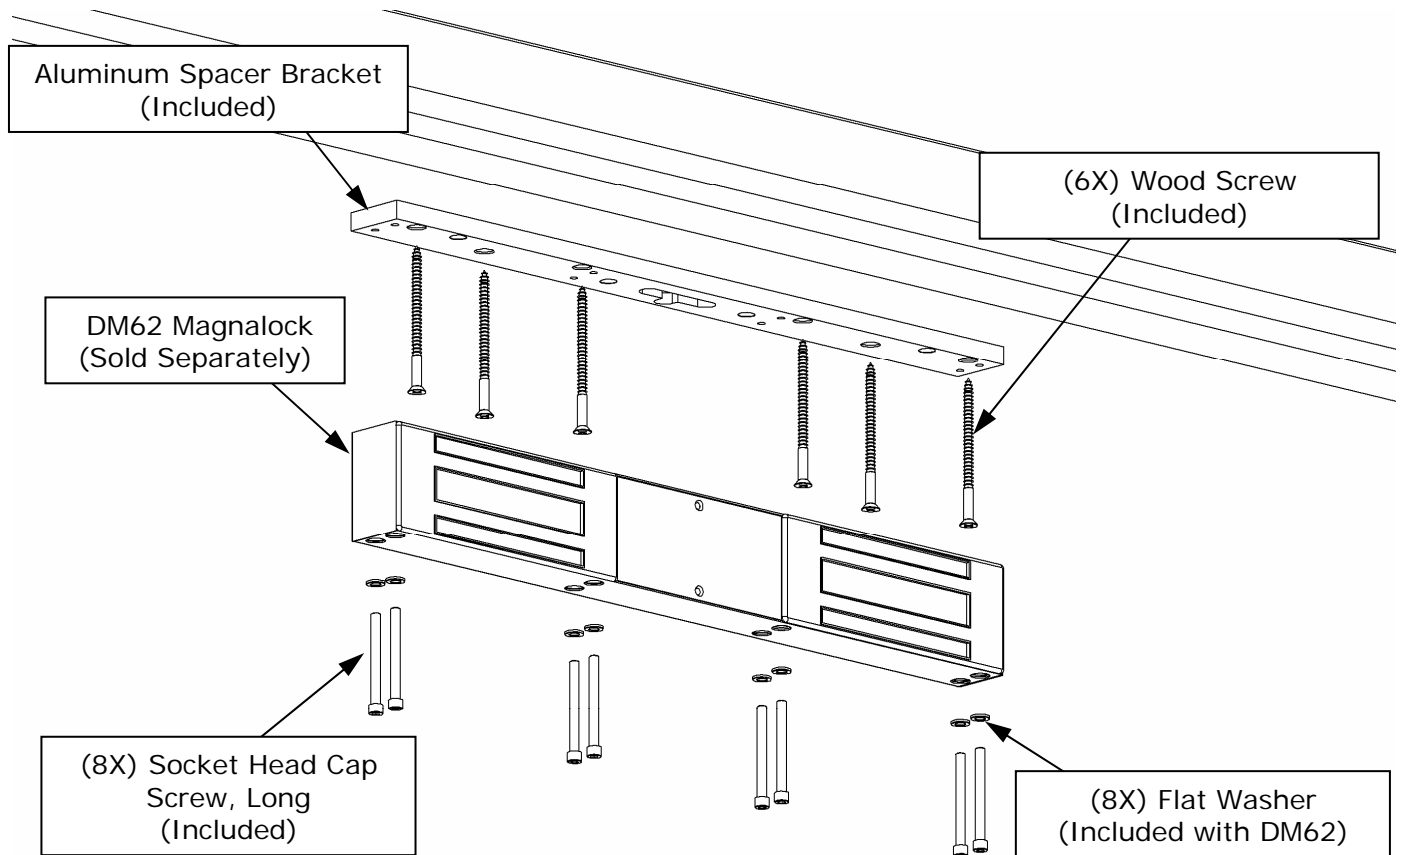

Figure 4
- Utilizing the spacer bracket as a template, mark the four (4) counter-bored holes where the blind nuts and socket head cap screws will be located.
- Drill the four (4) marked locations in the frame using a 3/8” [9.5mm] drill.
- Using the blind nut installation tool and the installation procedures provided in the DM62 package, mount the four (4) blind nuts.
- Mount the bracket onto the frame and securely tighten using the four (4) short socket head cap screws provided.
- Utilizing the six (6) counter-sink mounting holes remaining in the spacer bracket, drill 3/16” [4.8mm] holes x 1-1/2” [38mm] minimum depth, and install the six (6) sheet metal screws provided for additional strength.
- Using the eight (8) long socket head cap screws provided with the bracket hardware and the eight (8) flat washers provided with the DM62 Magnalock hardware, securely mount the Magnalock into place.
Mounting the spacer bracket onto a wood frame header requires the use of the six (6) wood screws provided. The wood screws mount through the frame and extend into the internal header to ensure a safe and secure mounting of the Magnalock reducing the possibility of the Magnalock becoming loose during regular use. **Figure 4** illustrates a visual concept of the parts that will secure the bracket for the Magnalock installation.